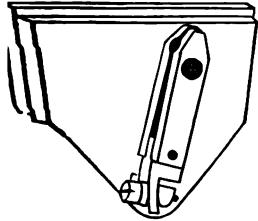

Fig. 10.
**Stud Holder.**—Fig. 10 is a little holder for studs and similar